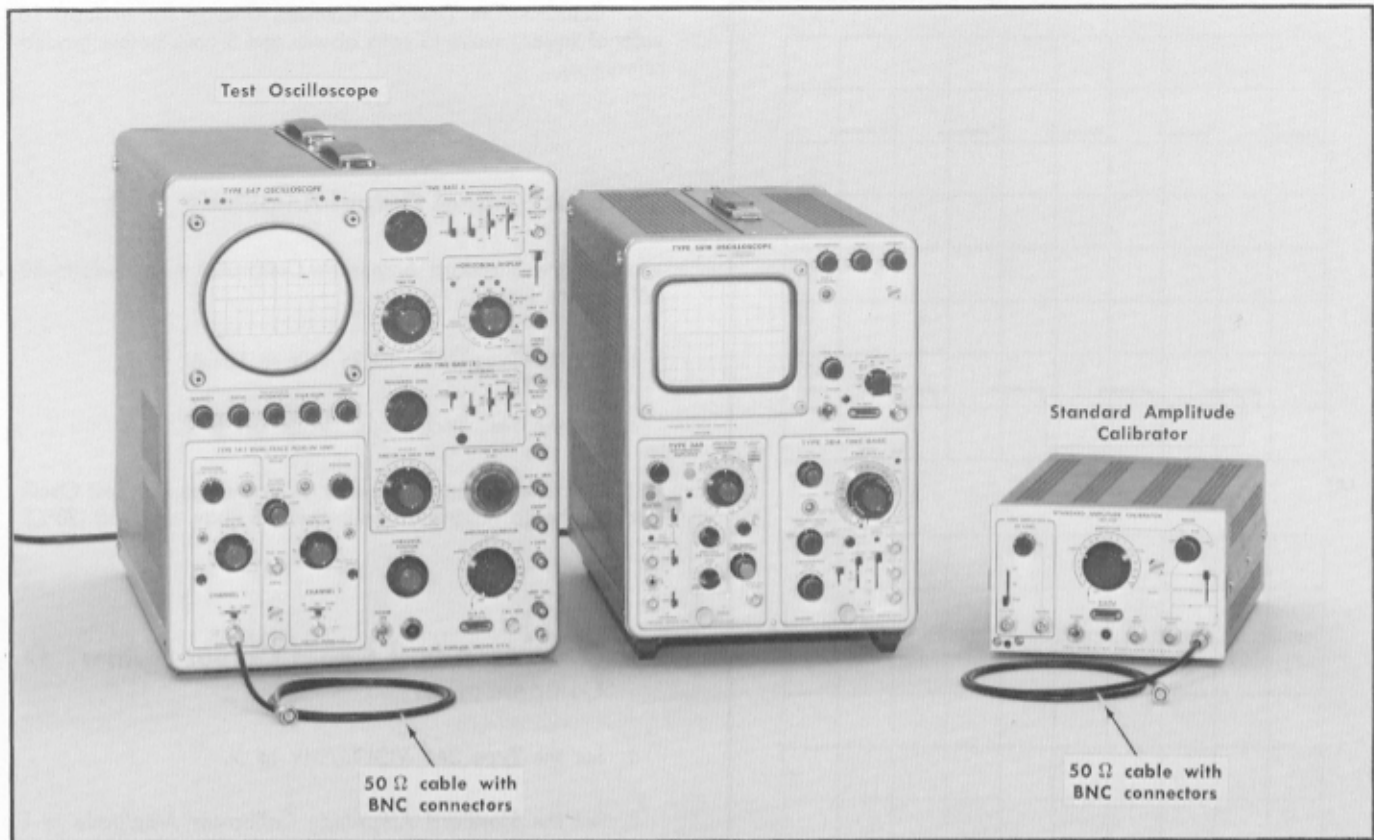

Fig. 5-36. Equipment required for steps 29 through 31.
- Test equipment is shown in Fig. 5-36.
- c. CHECK—The upper front corner on the Test oscilloscope display as shown in Fig. 5-36. The top of the square wave should be flat, with no overshoot or rounding of the corner.